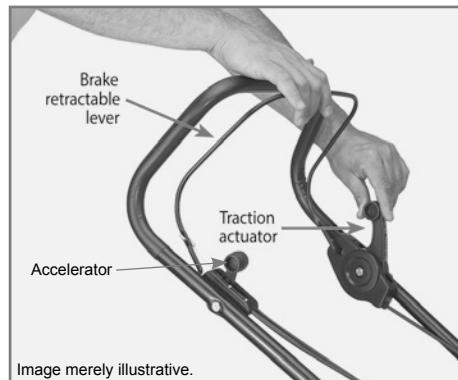

Figure 4
- ✓ Hold on tight the break retractile lever along with the cable. This engine has manual choke, therefore, position the accelerator lever in the maximum position to flood the engine (Fig. 4 - page 53). Position the acceleration lever in the position indicated by the choke symbol, according to the figure 3.
- ✓ Keep the engine retractile break lever in the operation position with the engine on (Fig. 4 and 5).